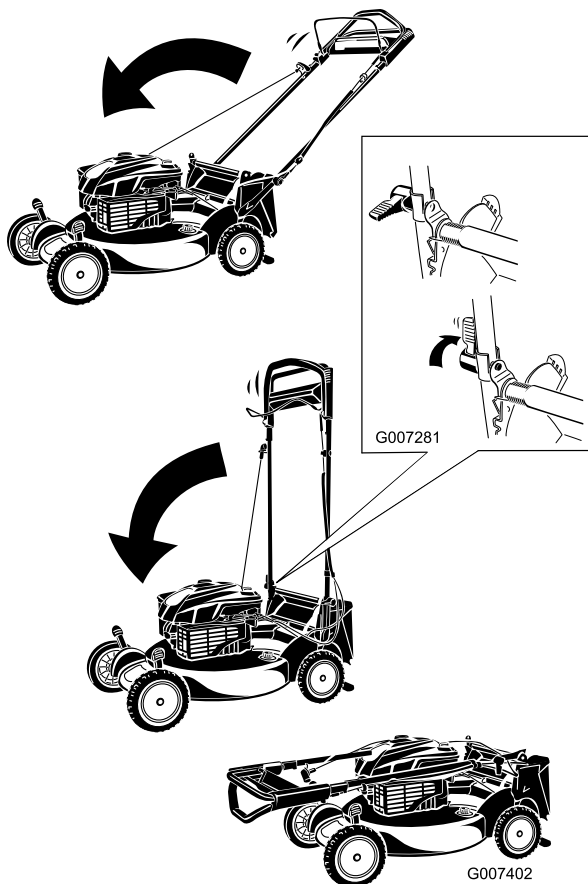

Figure 42
1. Rotate the handle forward (Figure 42).